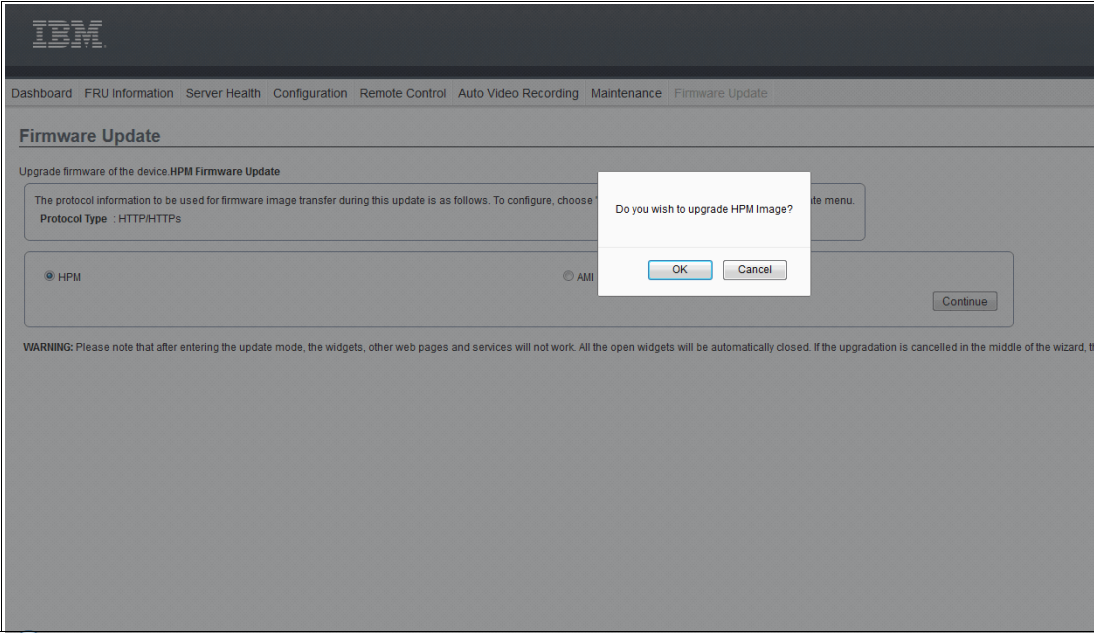

Figure 3-5 Confirm your update selection
4. Confirm that you want to update the HPM image by clicking **OK**, as shown in Figure 3-5.